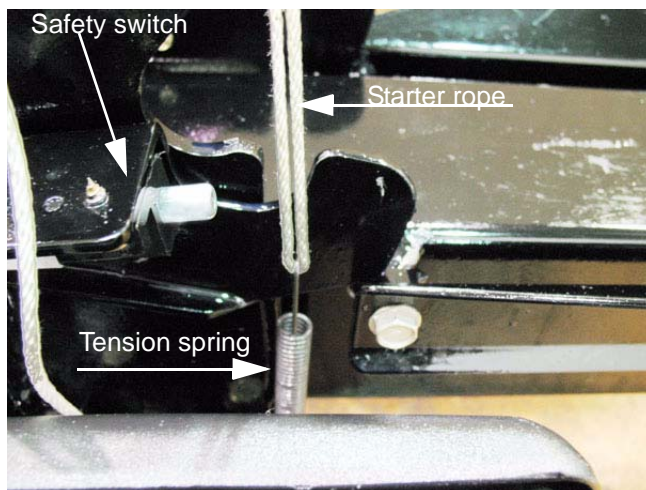

Figure 4.16
- 5.10. Unhook the spring that keeps tension on the cylinder lock bracket. See Figure 4.16.